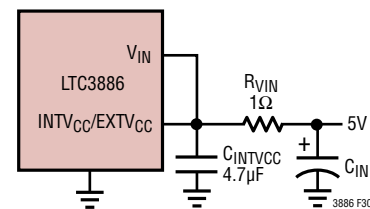

Figure 30. Setup for a 5V Input
For applications where VIN is 5V, tie the VIN and INTVCC pins together and tie the combined pins to the 5V input with a 1 $\Omega$  or 2.2 $\Omega$  resistor as shown in Figure 30. To minimize the voltage drop caused by the gate charge current a low ESR capacitor must be connected to the VIN/INTVCC pins. This configuration will override the INTVCC linear regulator and will prevent INTVCC from dropping too low. Make sure the INTVCC voltage exceeds the RDS(ON) test voltage for the MOSFETs which is typically 4.5V for logic level devices. The UVLO on INTVCC is set to approximately 4V.